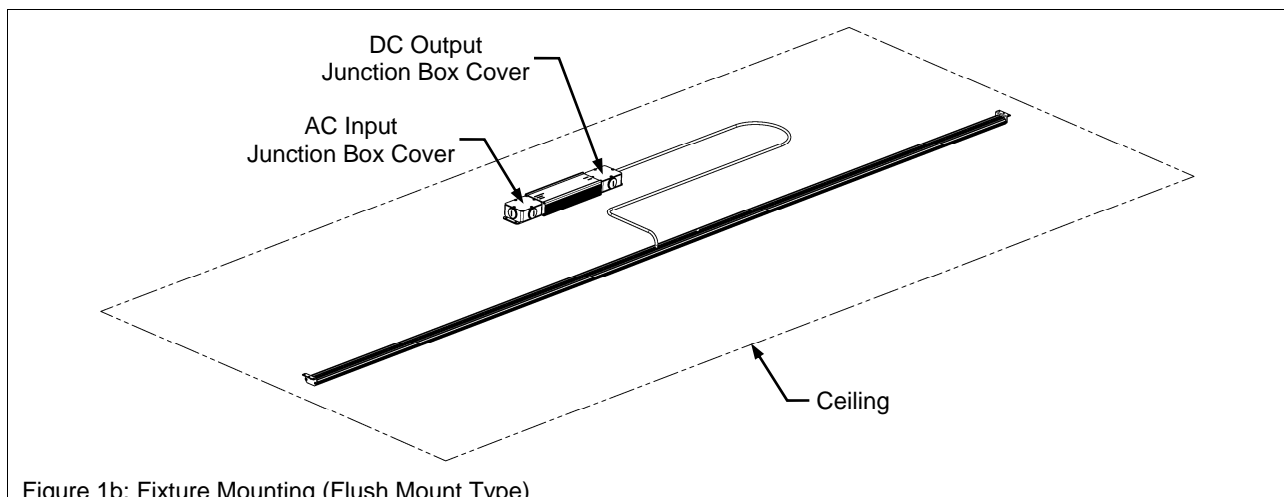
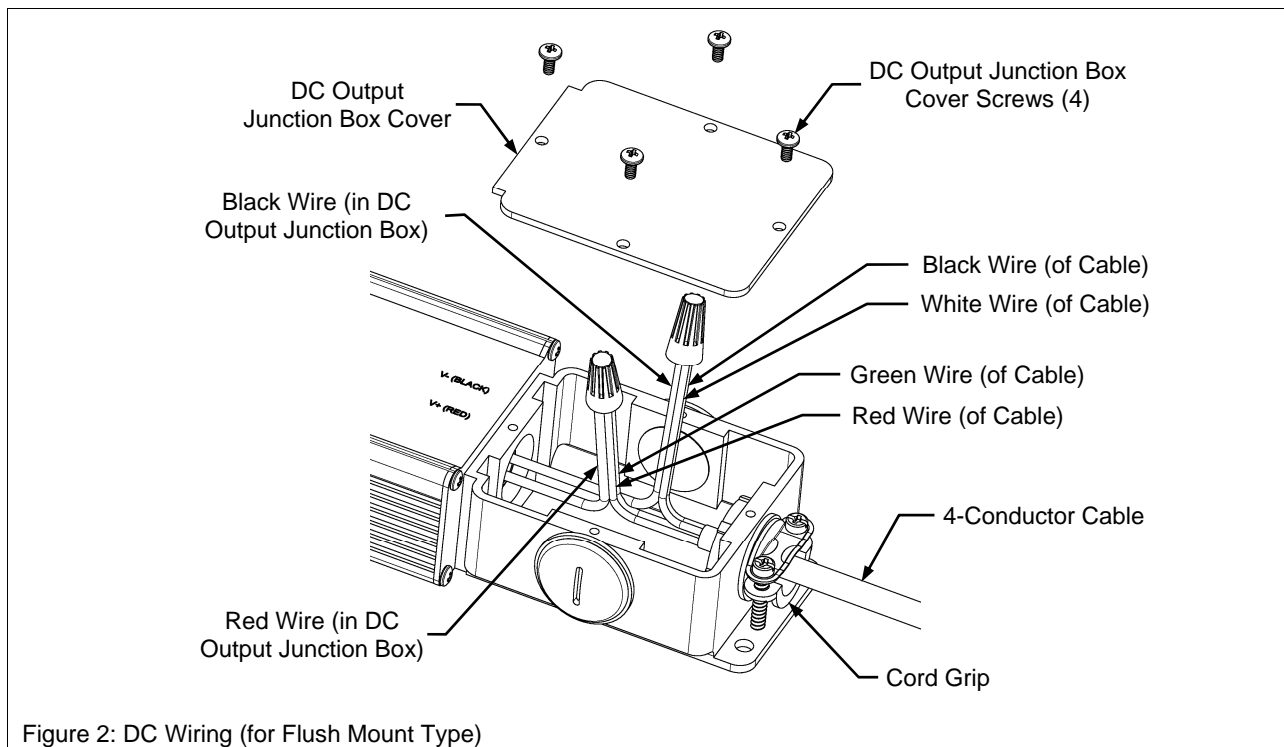

Figure 1b: Fixture Mounting (Flush Mount Type)
Figure 2: DC Wiring (for Flush Mount Type)
- 2) **DC Wiring (for Flush Mount Type).** To connect DC power to flush mount type fixture, remove DC output junction box cover (Fig. 1b or 2), unscrew one location of the DC output junction box caps and install cord grip (supplied). Route 4-conductor cable through cord grip and tighten cord grip. Make DC connections (Fig. 2) per national and local electrical codes. Connect red wire in DC output junction box to green and red wires of 4-conductor cable. Connect black wire in DC output junction box to black and white wires of 4-conductor cable. Replace DC output junction box cover when all connections have been made.